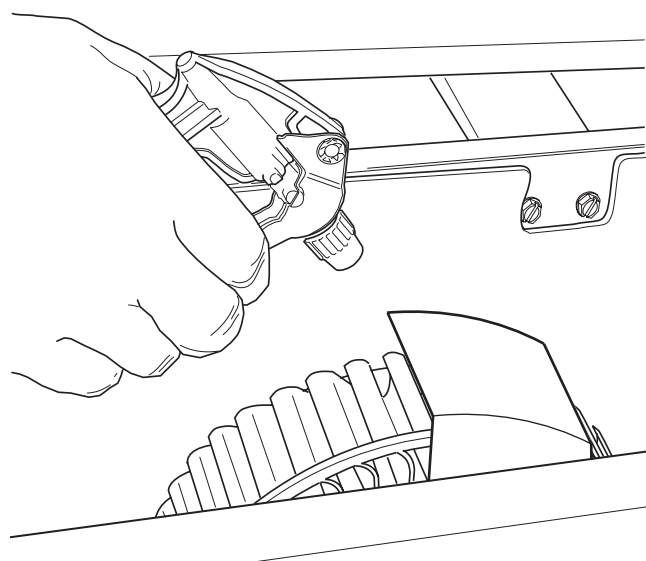

FIGURE 31 — SPRAYING BLOWER WHEEL BLADES
5. Use the spray bottle to spray the blower wheel blades and the inner surface of the blower scroll with a 3% solution of hydrogen peroxide to kill any fungus spores. Wipe up excess solution in the bottom of the blower scroll with a clean cloth. See Figure 31.